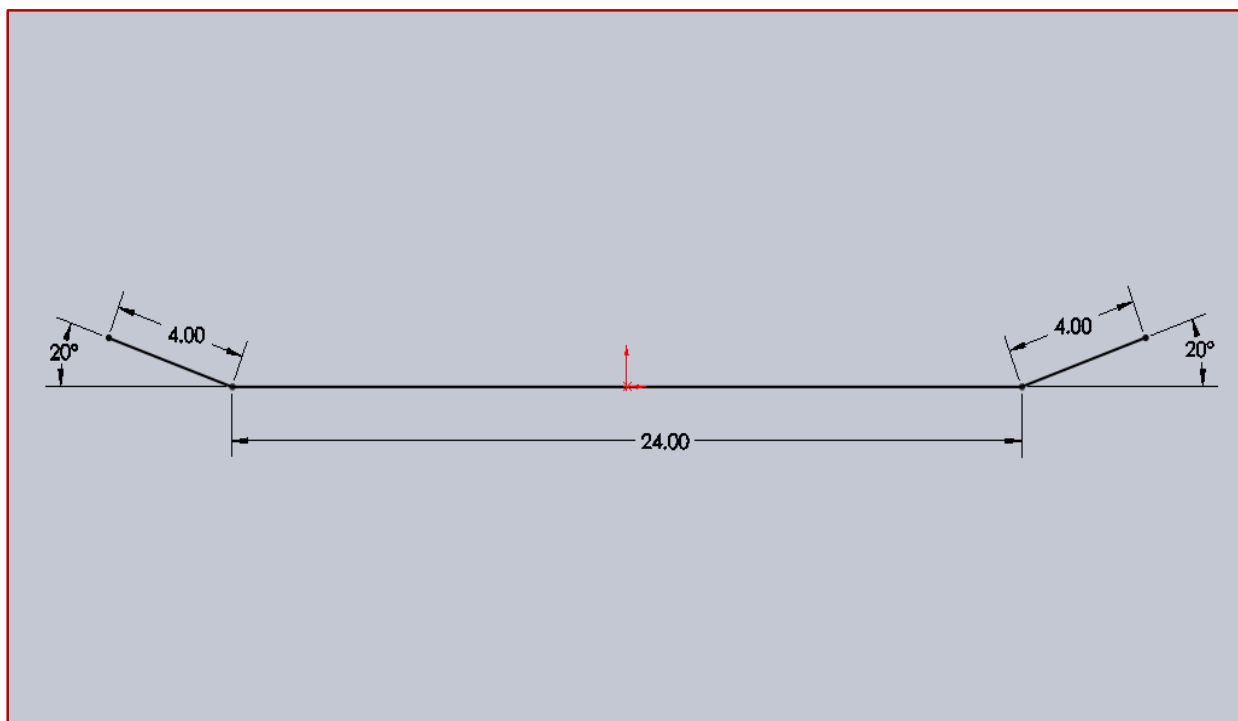

Figure 3.4 – Sketch with Dimensions
- ✓ To dimension an angle, click on two lines and SolidWorks will show the angles between the lines. You must move around the vertex to see the various complementary and supplementary angles. The angles in our skateboard are 20 degrees as shown in Figure 3.4.